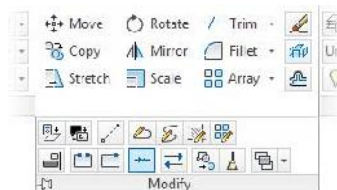

FIGURE 4.4: Starting the JOIN command
3. Expand the Modify Ribbon panel on the Home tab and click Join, as shown in Figure 4.4. Command-line users can type **J** to start the JOIN command.